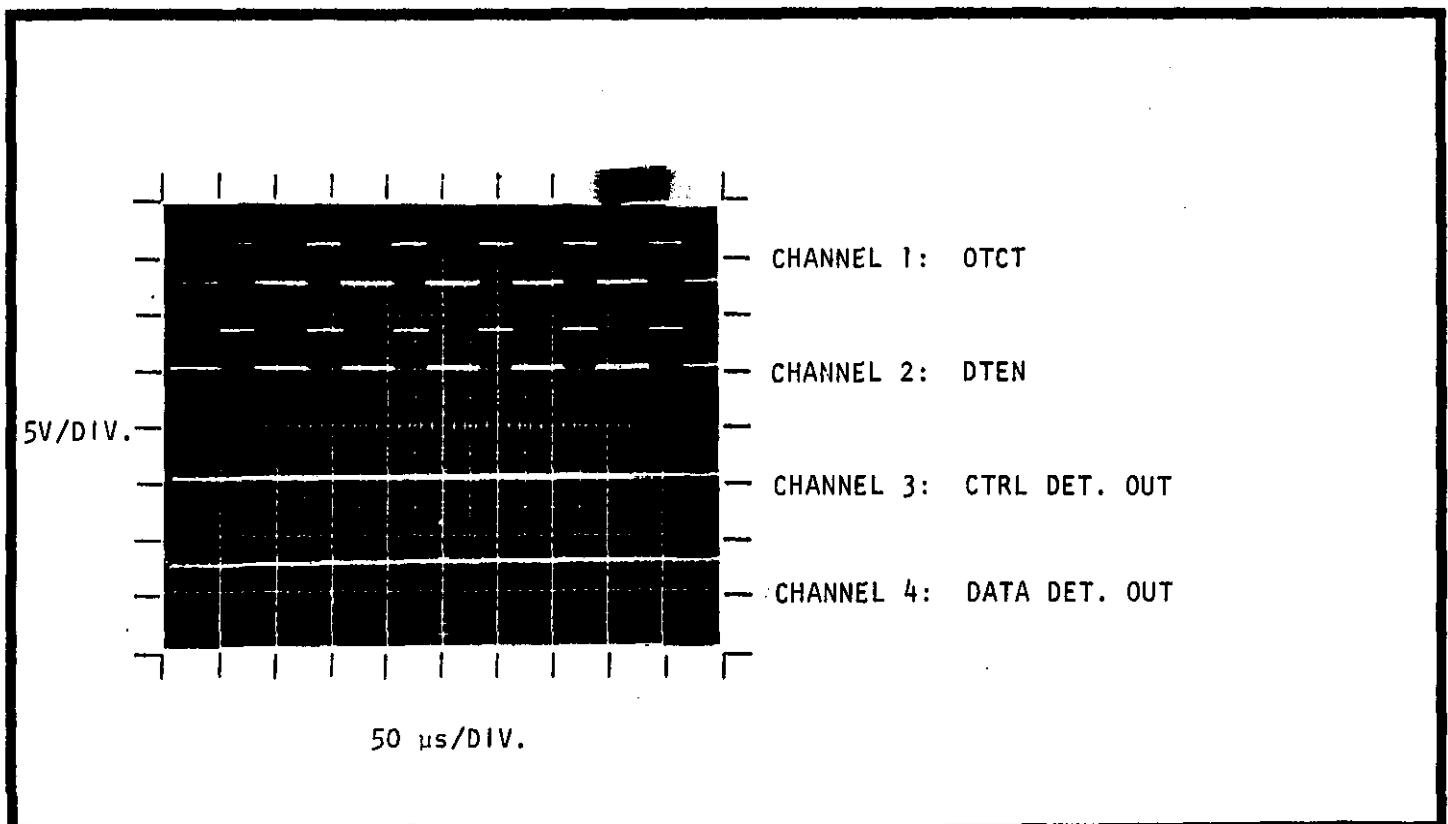

FIGURE 9. Trace for Test #1.
4. Verify that OTCT and DTEN are present as shown in Figure 9.
5. Verify that Control Detector output and Data Detector output are at signal L0 as shown in Figure 9.